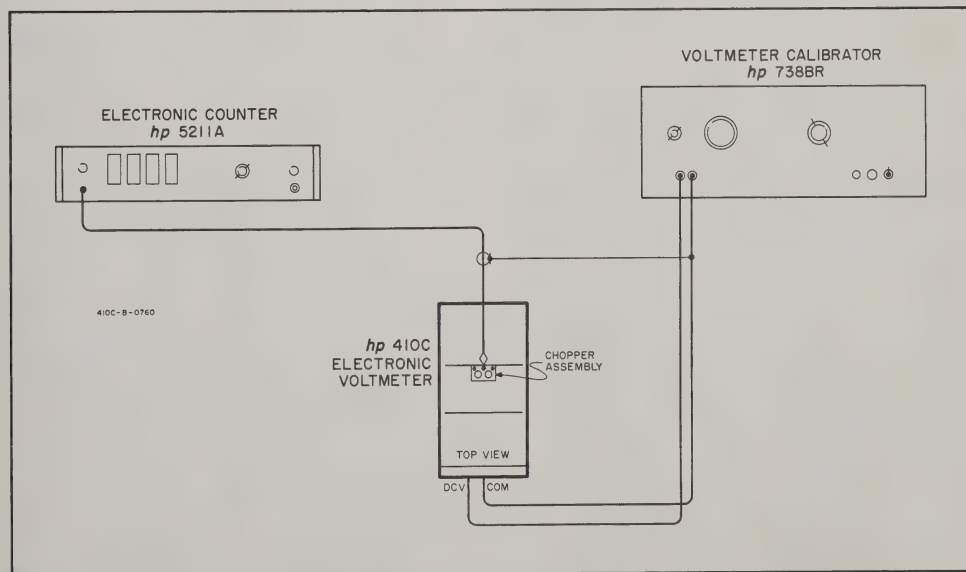

Figure 5-6. Chopper Frequency Adjust Setup
c. Connect Model 410C, electronic counter, and voltmeter calibrator as shown in Figure 5-6.